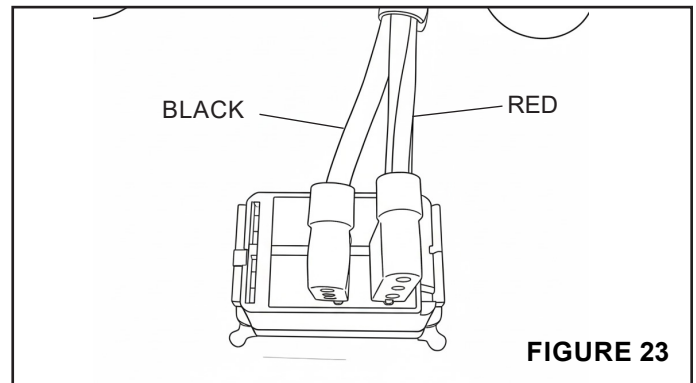

FIGURE 23
STEP 23: (SEE FIGURE 23)
- Plug the female connectors on the wire harness (FF) to the male terminals on the switch (U). Black wire goes to the inner terminal and the red & black wire goes to the outer terminal.
- Route the other end of the wire harness (FF) back towards the battery.
- Connect battery wire harness (EE) terminals to the mower battery (connect the red wire to the positive terminal and the black wire to the negative terminal).
- Plug the wire harness (FF) into the battery wire harness (EE).